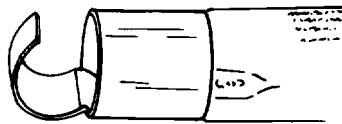

Figure 18. TG-12 Reflector
a. TG-12. Used for heating solder termination sleeves and shrinking small-diameter tubing. Used for short lengths of tubing up to 3/4 inch diameter and comes with heating tool when ordered (Figure 18).